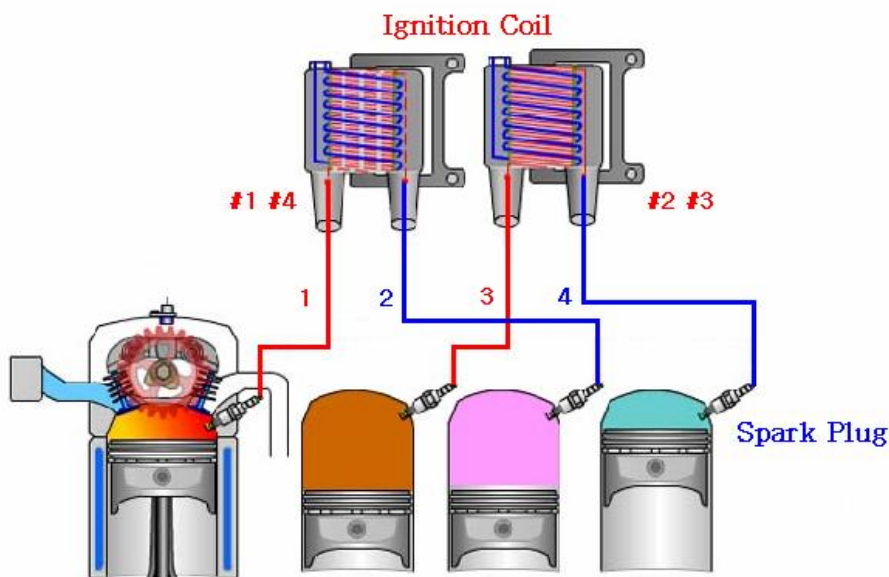

Fig. XIV-24 DLI Type
[No.1 and 3 high-tension cable of Fig. XIV-24]
[No.2 and 4 high-tension cable of Fig. XIV-24]
- If the No.1 cylinder of the vehicle you want to measure is positive, please connect trigger pick up to the high-tension cable on opposite direction of SPARK PLUG. **[No.1 high-tension cable of Fig. XIV-24]**